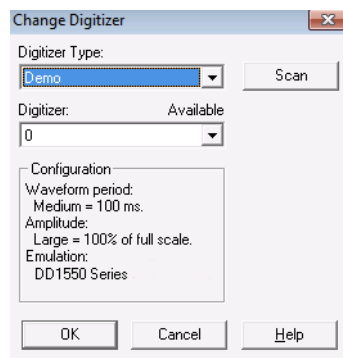

Figure 2-1: Example Digitizer Dialog
2. Click **Configure > Digitizer** to open the **Digitizer** dialog, then click **Change** (Figure 2-1).